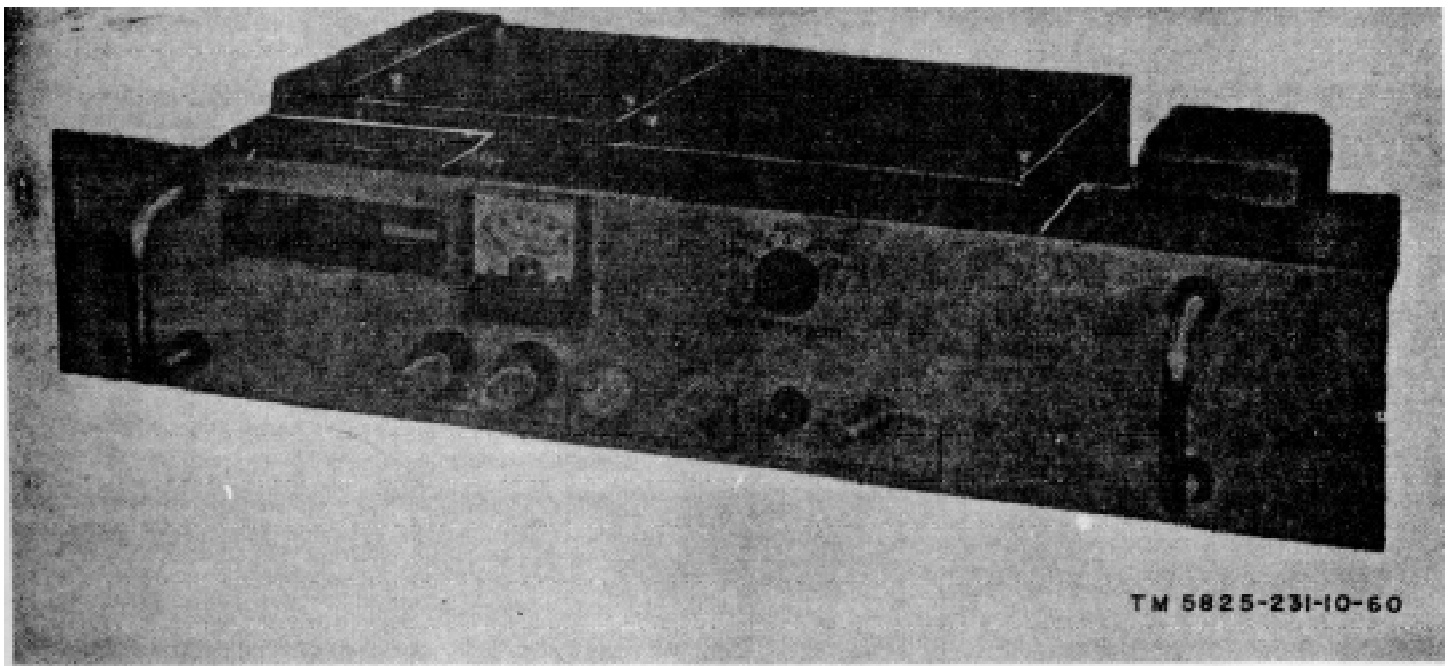

Figure 1-7. Coupler, Antenna CU-1874/TRD-23A.
**1-10. Coupler, Antenna CU-1874/TRD-23A** (fig 1-7)